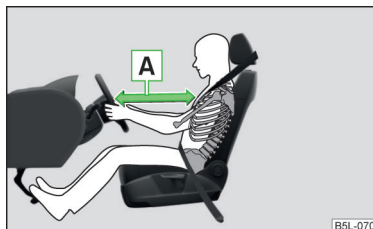

Fig. 21
- For the driver and passenger, it is important to maintain a distance of at least 25 cm from the steering wheel or dashboard » Fig. 21 - **A**. If this distance is not maintained, the airbag system cannot protect you - hazard! The front seats and the head restraints must always be correctly adjusted to match the body size of the occupant.